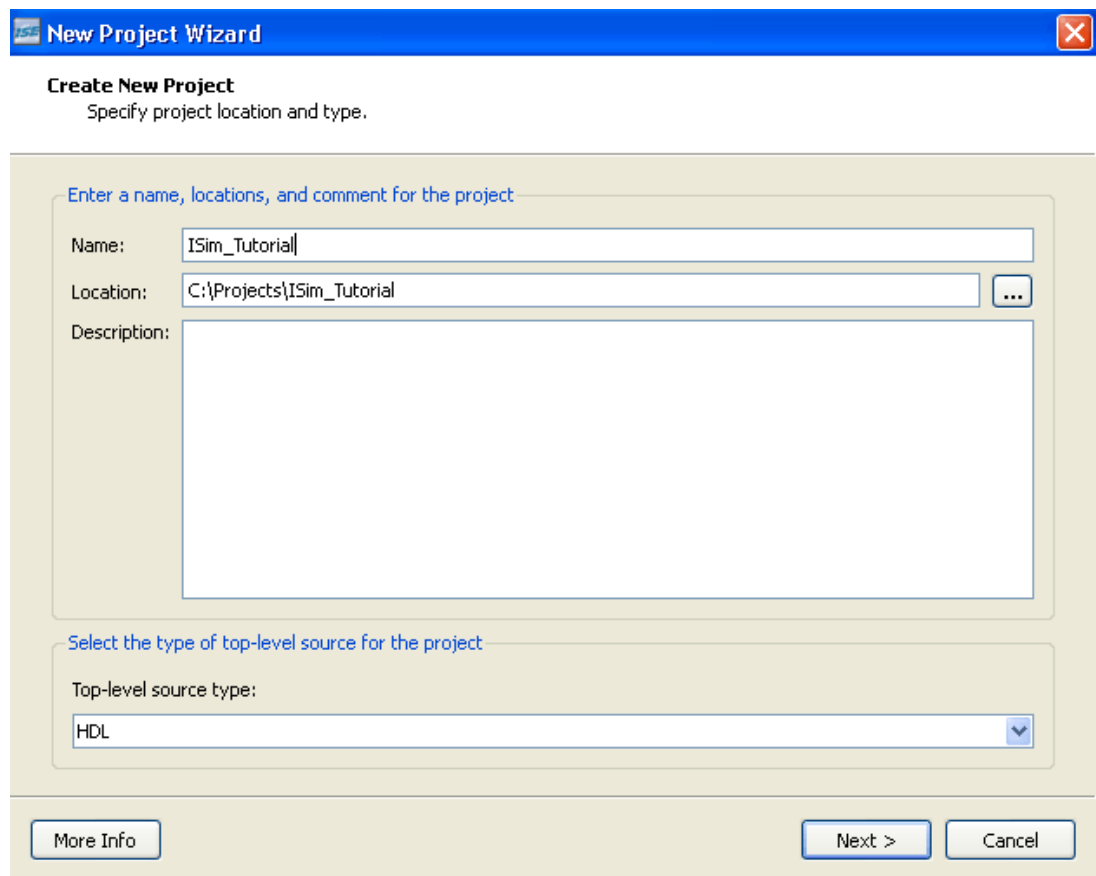

Figure 2-2: New Project Wizard
3. Provide a name and an appropriate location for the project (Refer to Figure 2-2).